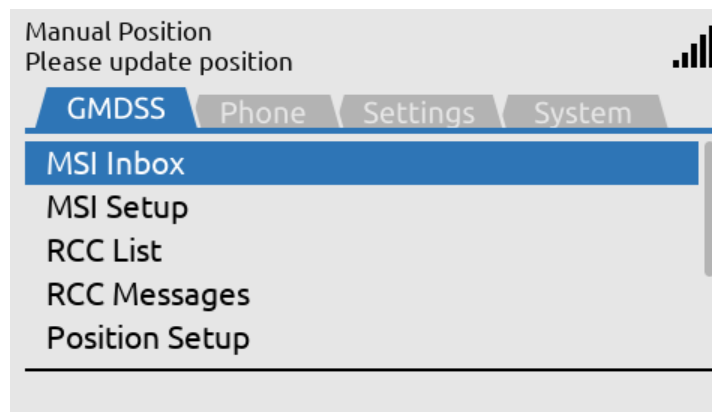

Figure 34: LT-3110S Control Unit - UI display (main menu).
- MENU / BAM button:** The MENU button is used to open the main menu, as illustrated in Figure 34. The BACK, arrows, and ENTER buttons are used to navigate in the menu layout. Press the MENU button to exit the menu from anywhere in the menu tree (instead of multiple BACK button presses). Long-press (> 1 s) the MENU / BAM button and the BAM Alert List will be showed.
The LT-3100S GMDSS system’s main menu is accessed by pressing the MENU button on the keypad. The user will be presented with a layout as illustrated in Figure 34.